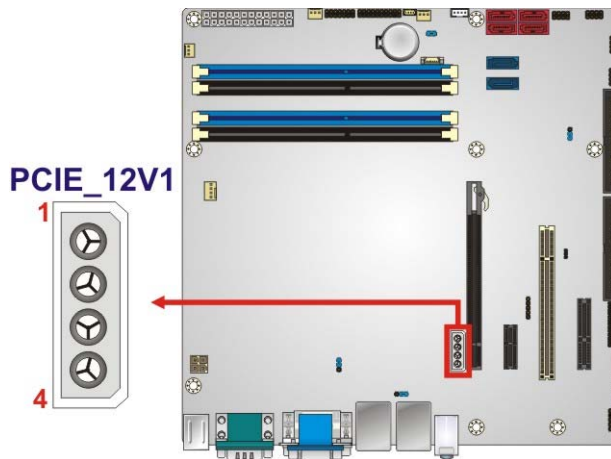

Figure 3-13: PCIe Power Location
- CN Location:** See **Figure 3-13**